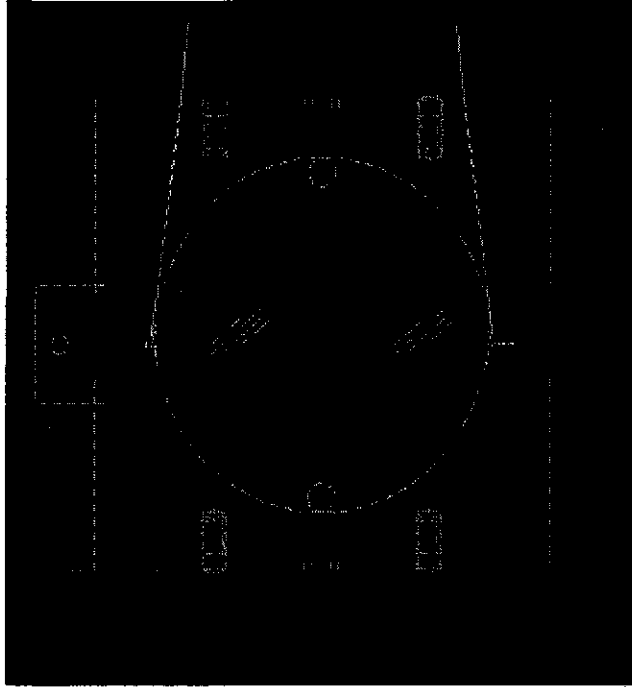

Figure 2: Sensor/Actuator Head Assemblies Orientation
4. Check for 12 Hz spike:The vertical resonant frequency of the wire is about 12 Hz. The orientation of the LED/photodiode pair in each sensor/actuator head affects the magnitude of this resonance's coupling into the pitch and yaw resonant frequencies. While moving the sensor/actuator head assemblies near the magnets on the optic, check the orientation of the sensor/actuator head assemblies. Generally, the optimum position is near to vertical, in that the photodiode is directly over the LED in a vertical orientation, as shown in Figure 2 below. If the oscilloscope shows a sharp spike around 12 Hz., slowly rotate the head assembly until the spike is at a minimum. Generally this is within 20 degrees of the vertical.